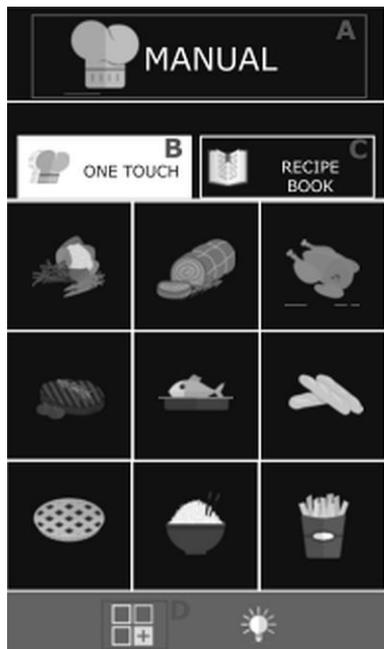

Fig. 9
2. Select from amongst 'Manual' **A** (Fig. 9) or 'Recipes' **C** (Fig. 9).
By pressing the control field **D** (Fig. 9) you access the 'Functions' menu (e.g., creating, importing and exporting thermal processing programs, Rack Control function, EasyService, etc.) and the appliance system settings.